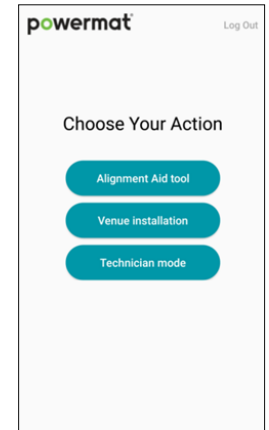

Figure 11: Installer app
- App will scan for your Charging Spot ID printed on the sticker (see Figure 11)